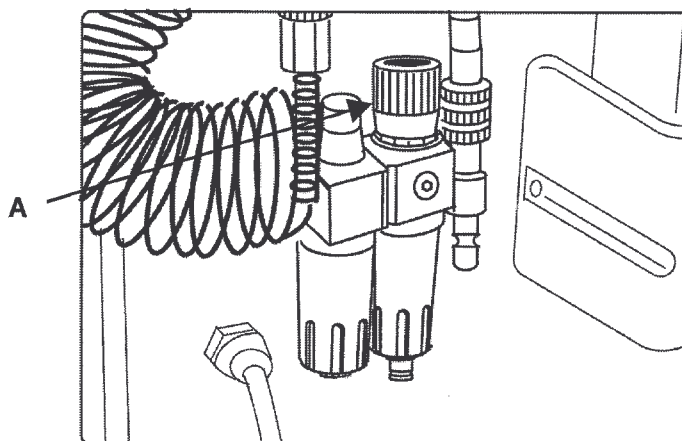

Fig. 09-08
9.8 REGOLAZIONE PRESSIONE INGRESSO ARIA (Fig. 09-08)